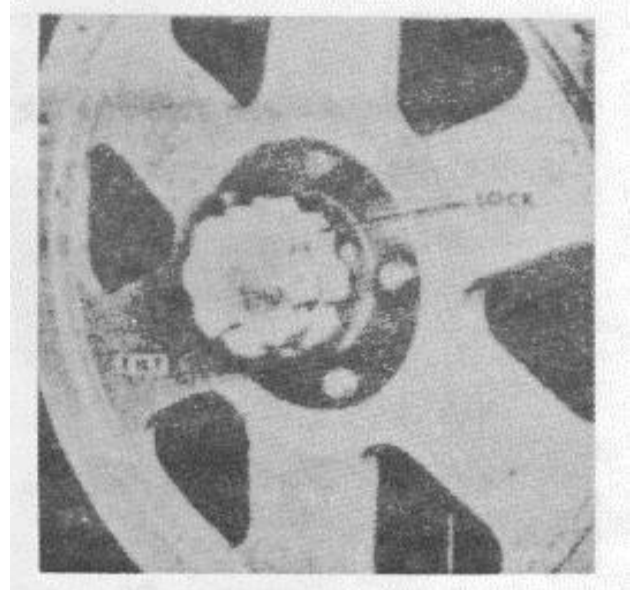

Fig. 12 - Showing upper wheel tilt and LOCK controls for band tracking.
(1) With the wheel doors open, press the start button and observe how the band tracks.
(2) Use the tilt control (fig. 12) to adjust upper wheel tilt. Turning the tilt handwheel clockwise moves the band into the saw guide bearings and turning it counter-clockwise pulls the band away from the bearing. The back edge of the band should just touch the insert-type